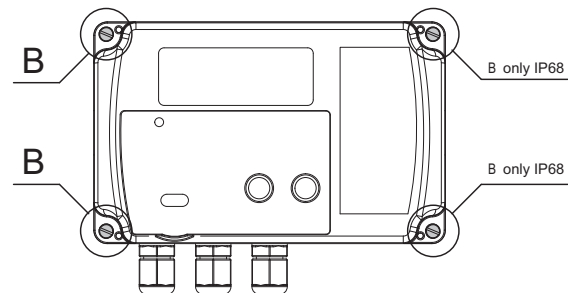

Fig. 4
8. Unscrew the B screws holding the calculator cover (Fig. 4)